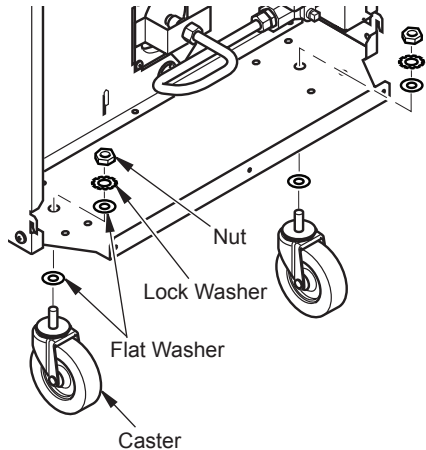

Figure 4 - Installing Casters
2. You may wish to remove side panel from heater to make installing casters easier. If so, see Top and Side Panel Removal on page 14. Figure 4 shows side panel removed for clarity.
4. Place a flat washer onto threaded stem of caster. Insert caster stem through hole in cabinet base as shown in Figure 4.
5. Attach each caster to base with a flat washer, a lock washer and a nut as shown in Figure 4.